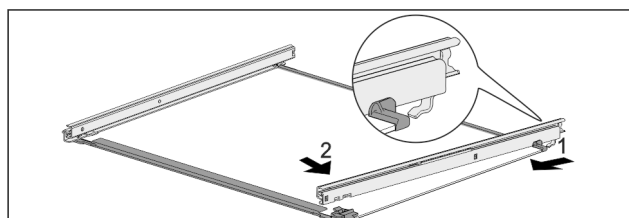

Fig. 166 Glass shelf with rails
- ▶ Hook in rail at the back. *Fig. 166 (1)*
- ▶ Hook in rail at the front. *Fig. 166 (2)*